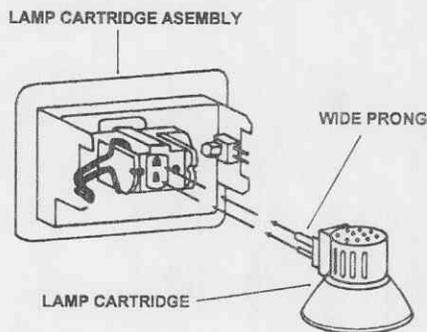

Figure 3-8. Installing the lamp cartridge.
- (1) Acquire a replacement lamp cartridge from stock or requisition a replacement.
- (2) Install a replacement lamp cartridge into the assembly by positioning the assembly and lamp cartridge as illustrated in figure 3-8 and pushing the lamp cartridge into the assembly.